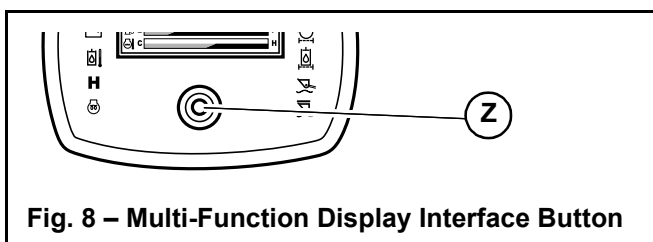

Fig. 8 – Multi-Function Display Interface Button
1. Hold down the interface button (Z, Fig 8) on the multi-function display for 5 seconds.